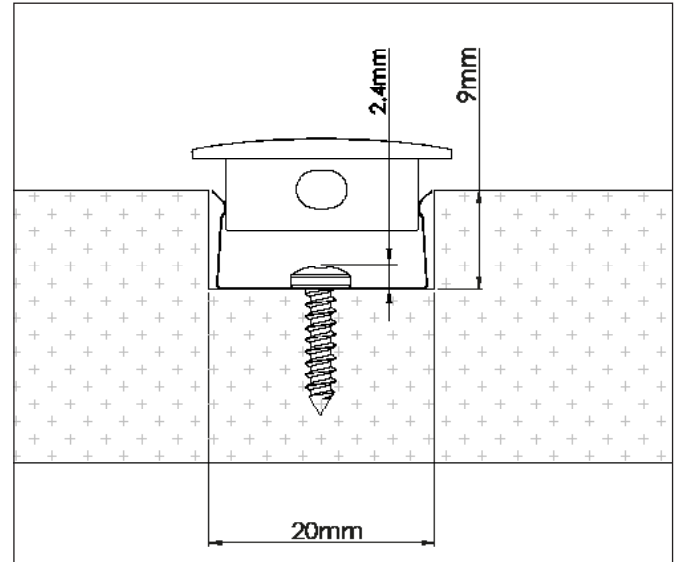

fig 1. channel with spring clip expanded
*Note: If the groove is narrower than 20mm the clip will struggle to expand. If wider and not perfectly straight, the groove may become exposed to view. See *fig 1*.